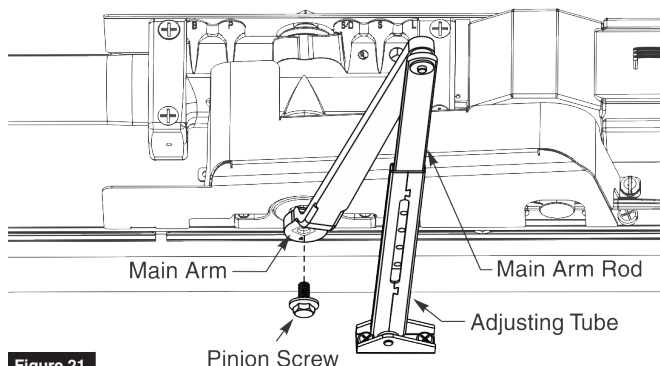

Figure 21
2. Slide main arm rod into adjusting tube. (Figure 21)
3. Place square of main arm onto closer pinion. (Figure 21)
4. Attach main arm to pinion with screw then tighten with 7/16" wrench. (Figure 21)